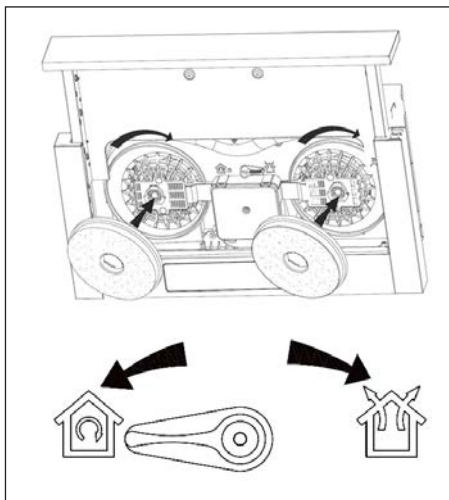

Fig. 2
2. The carbon filters are situated on both motors. Turn the filters, until they are secured (see Fig. 2).
3. In the space between the two motors, turn the lever to recirculation mode (see Fig. 2).